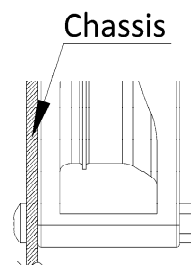

FIGURE 2
1.2. For rib-type fans, secure the screws through the frame as shown in Figure 2.